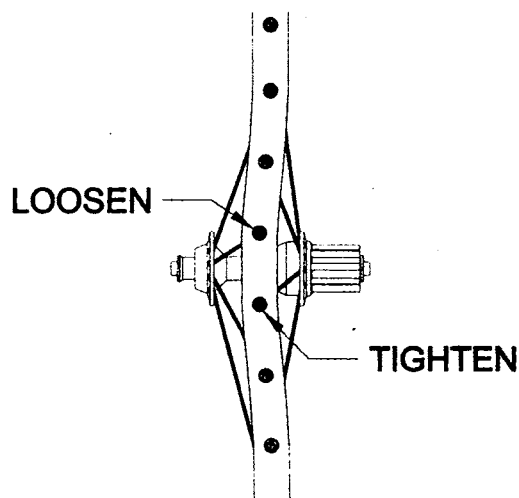

Fig. 7 - Lateral truing
Step 4 - Once low working tension has been reached, begin the lateral truing procedure (figure 7). Remember to tighten the spokes on the side of the rim that lies in the direction the rim needs to travel and to loosen the spokes an equal amount on the opposite side. It is very important your turns are consistent and you try to tighten and loosen the same number of spokes; for example, tightening two left side spokes and loosening two right side spokes the same amount.